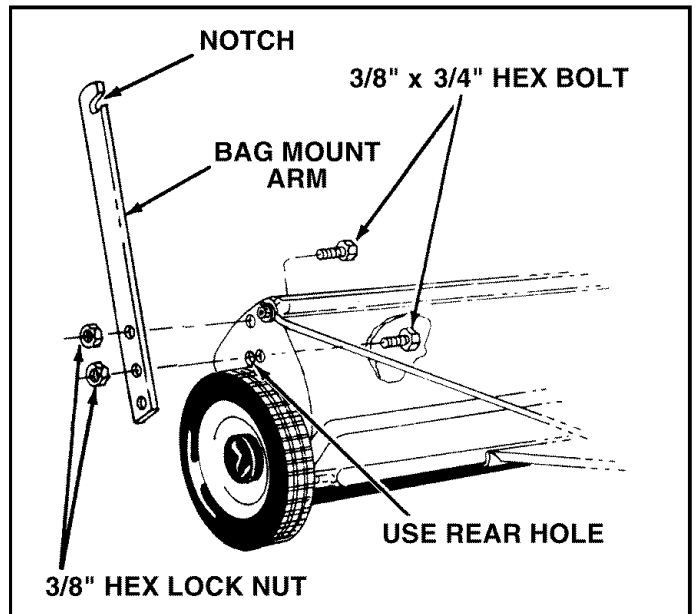

FIGURE 6
- Assemble the two bag mount arms to the **outside** of the sweeper housing using four 3/8" x 3/4" hex bolts and 3/8" hex lock nuts. Use rear hole of dual position holes in sweeper housing to install bag mount arm. The notched side of the bag mount arms **faces upward**. See figure 6.